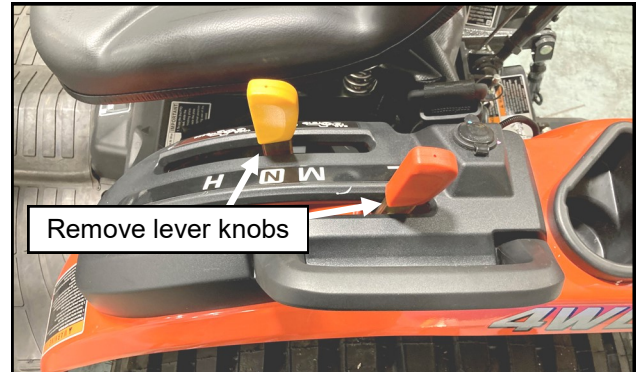

Fig. 1.5 (Fender Console Levers)
**1.5** Take note of which knobs go with which levers that stick through the fender consoles. Remove the knobs and retain. See Figure 1.5.